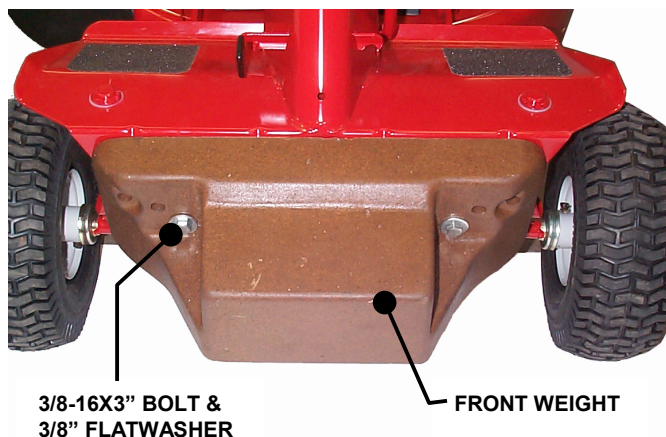

FIGURE 1.12
- A. Attach weight to the front frame of Rider using (2) 3/8-16 x 3" hex head bolts and (4) heavy 3/8" flat washers. Place one washer on each bolt.
- B. Align holes in weight with holes in frame. Insert bolt, with washer, through weight and frame. See Figure 1.12.